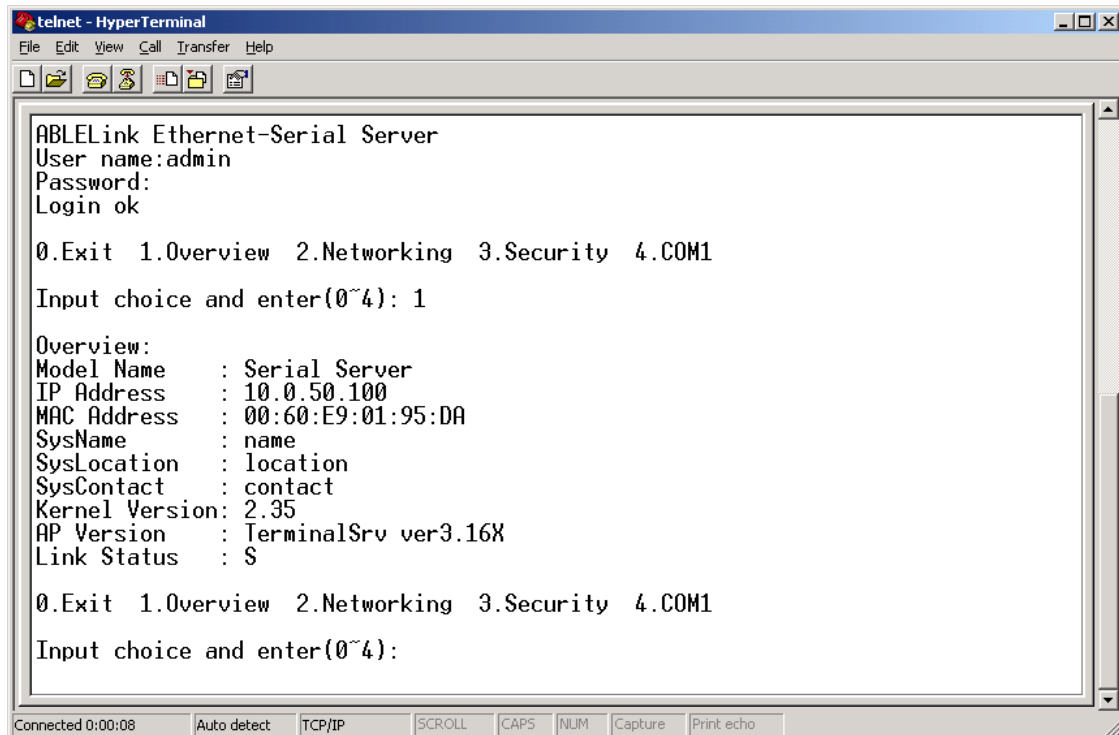

Figure 3.6 Overview
->Select "1" from "Input choice and enter (0~4):" to enter overview page as following:(Figure 3.6)